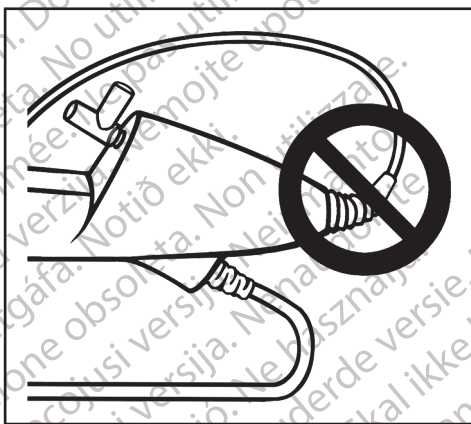

Figure 5. DO NOT BEND SHARPLY
- The ureteroscope features a strain relief at the transition from the handle to the shaft. The strain relief protects the device during use. To prevent damage to the shaft and/or light fiber, do not bend the shaft sharply (Figure 5).